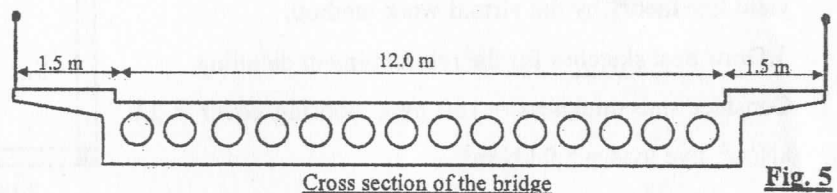

Fig. 5
b) Figure 5 shows the cross-section of a simply supported hollow-core slab type bridge with span of 15 m. As shown in Figure 1, the width of the deck is 12.0 m and the sidewalk width is 1.50 m. The slabs have a total thickness of 1200 mm, where, the sidewalks have a variable thickness of 200/400 mm. It is required to carry out the following;
For the simple beam element shown in Figure 5, the assumed displacement function is